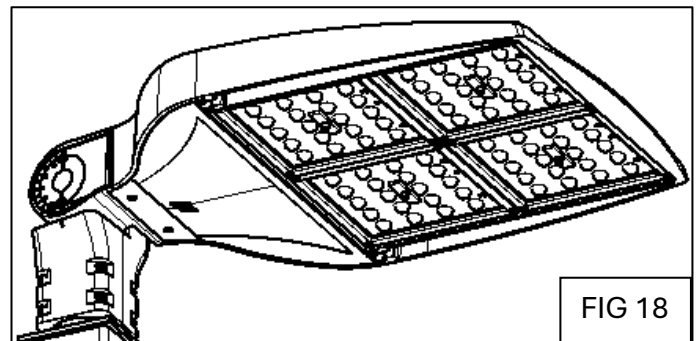

FIG 18
11. Close the access cover with O-ring and beauty plate and tighten the screws to 20 IN-LB (FIG 18).